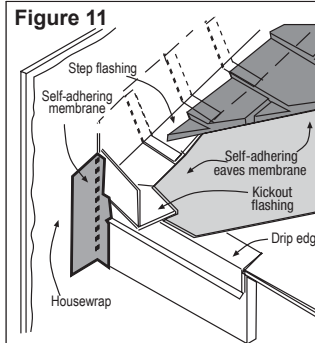

Figure 11
**Figure 11, Kickout Flashing \*** To prevent water from dumping behind the siding and the end of the roof intersection, install a "kickout" of sufficient length and angle to direct the water running down the roof away from the siding.
\* The illustration (figure 11) was reprinted with permission of THE JOURNAL OF LIGHT CONSTRUCTION. For subscription information, visit [www.jlconline.com](http://www.jlconline.com).